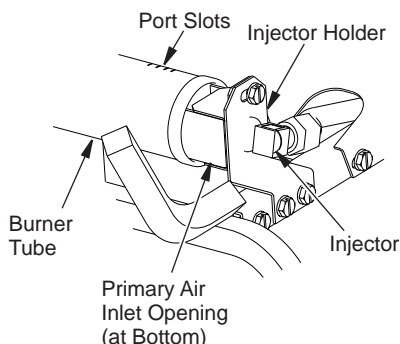

Figure 24 - Injector Holder on Outlet Burner Tube
2. Inspect burner and primary air inlet holes on injector holder for dust and dirt (see Figure 24 and 25).